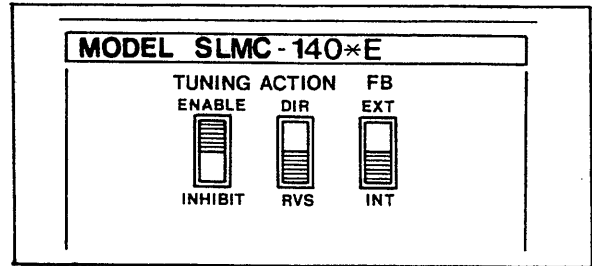

Figure 5-2-5. Setting Tuning Board Switches.
- (2) Setting of tuning board switches (Figure 5-2-5). Set the DIR/RVS and EXT/INT selector switches on the tuning panel to the required position. Next, turn on the power, and set the TUNING switch to ENABLE. The parameters can now be set from the keyboard.